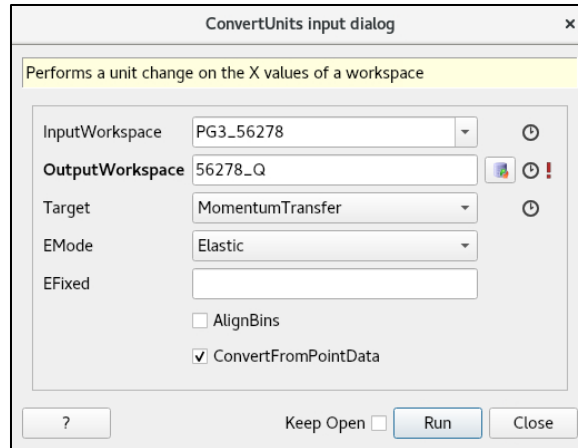

Figure 5. ConvertUnits input dialog box with options to convert to Q selected.
- 2.2.1. In the Algorithms pane, type *ConvertUnits* and click *Execute* to open the *ConvertUnits* input dialog box (Figure 5).